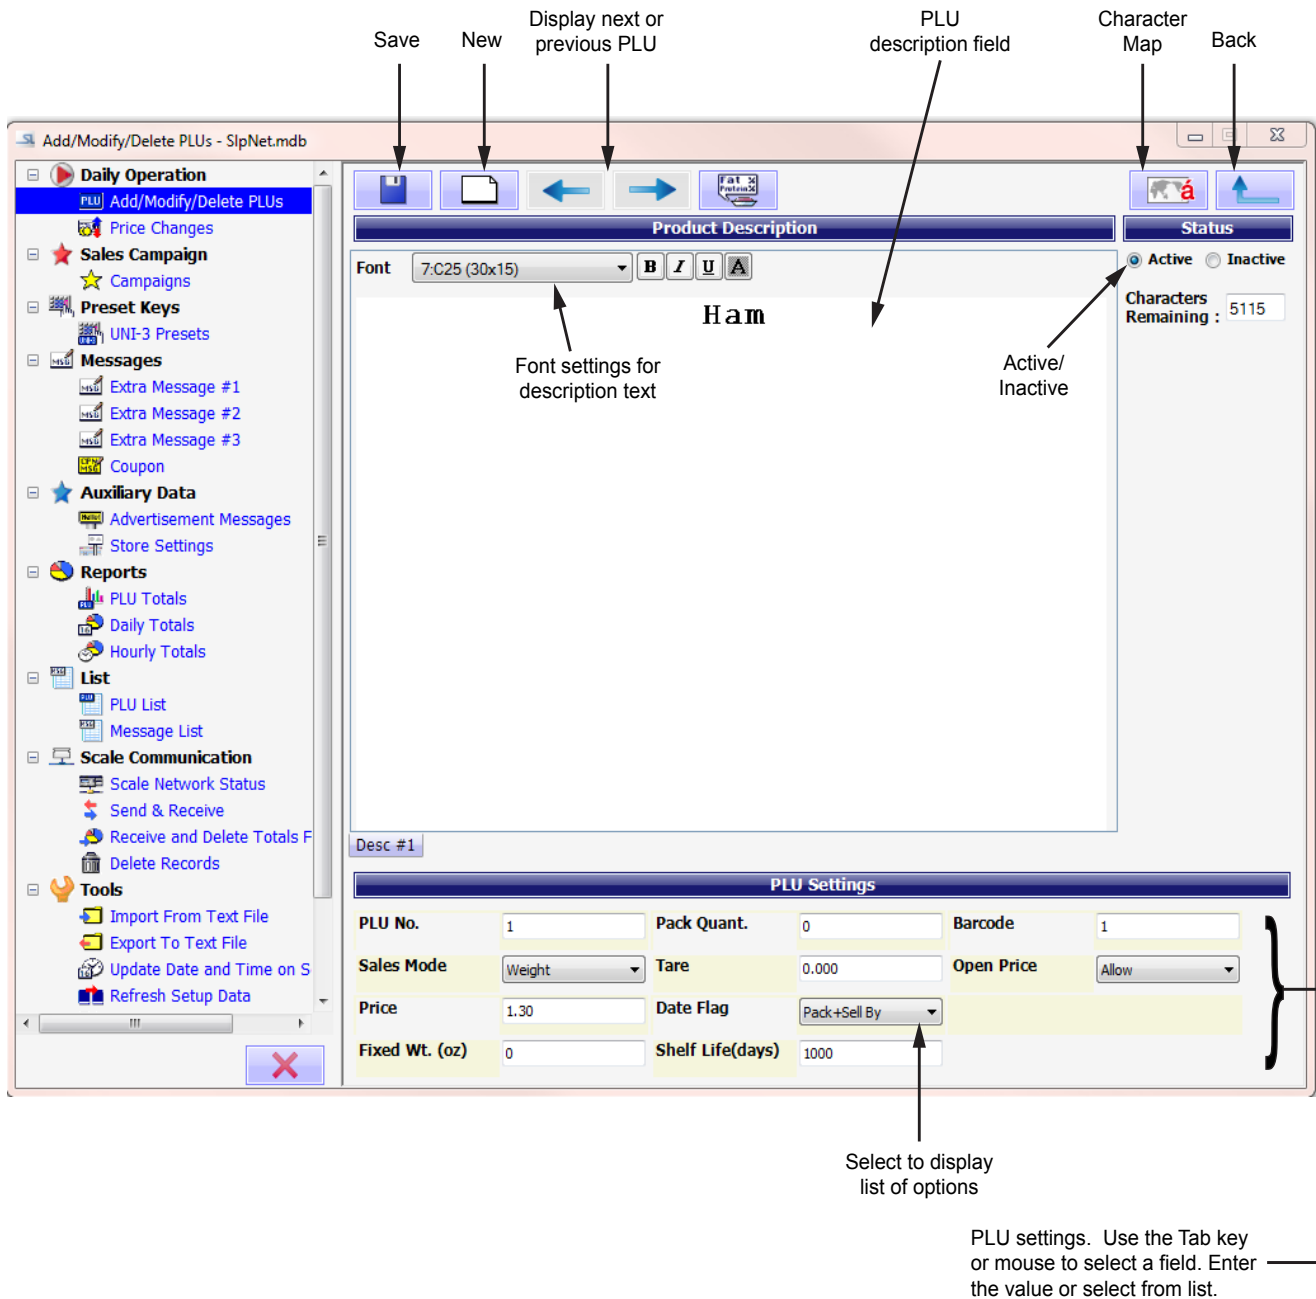

Figure 14-1
3. Key in the PLU description in the Product Description field. See Figure 14-1.